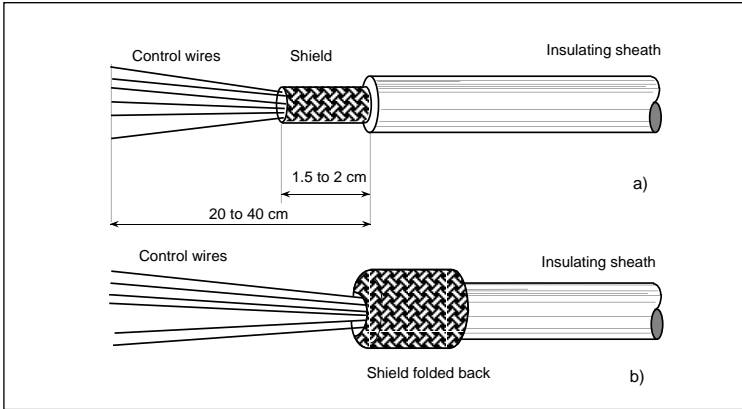

Figure 3-4 Control cable stripping
- **Strip** the shielded cable as shown in figure 3-4,a.
- **Fold back** the shield on the insulating sheath (figure 3-4,b)